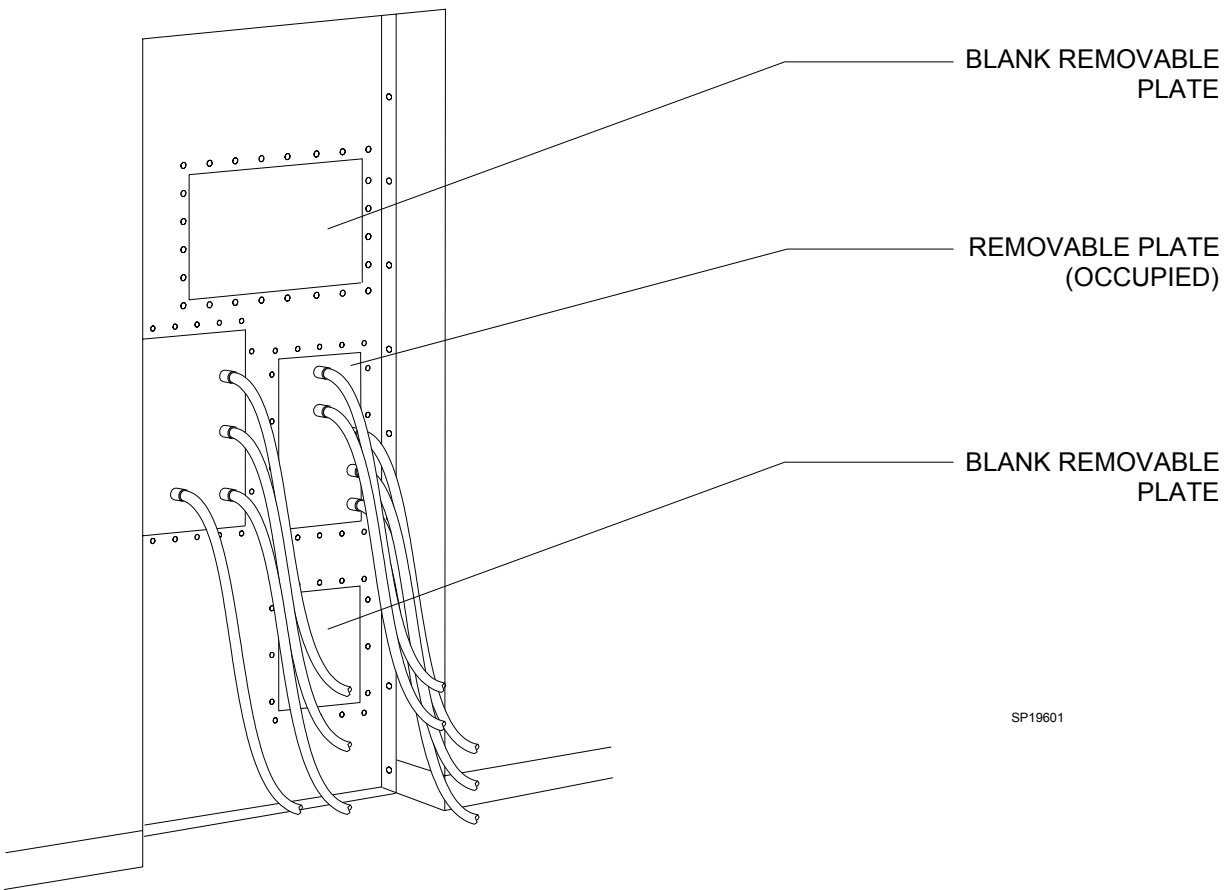
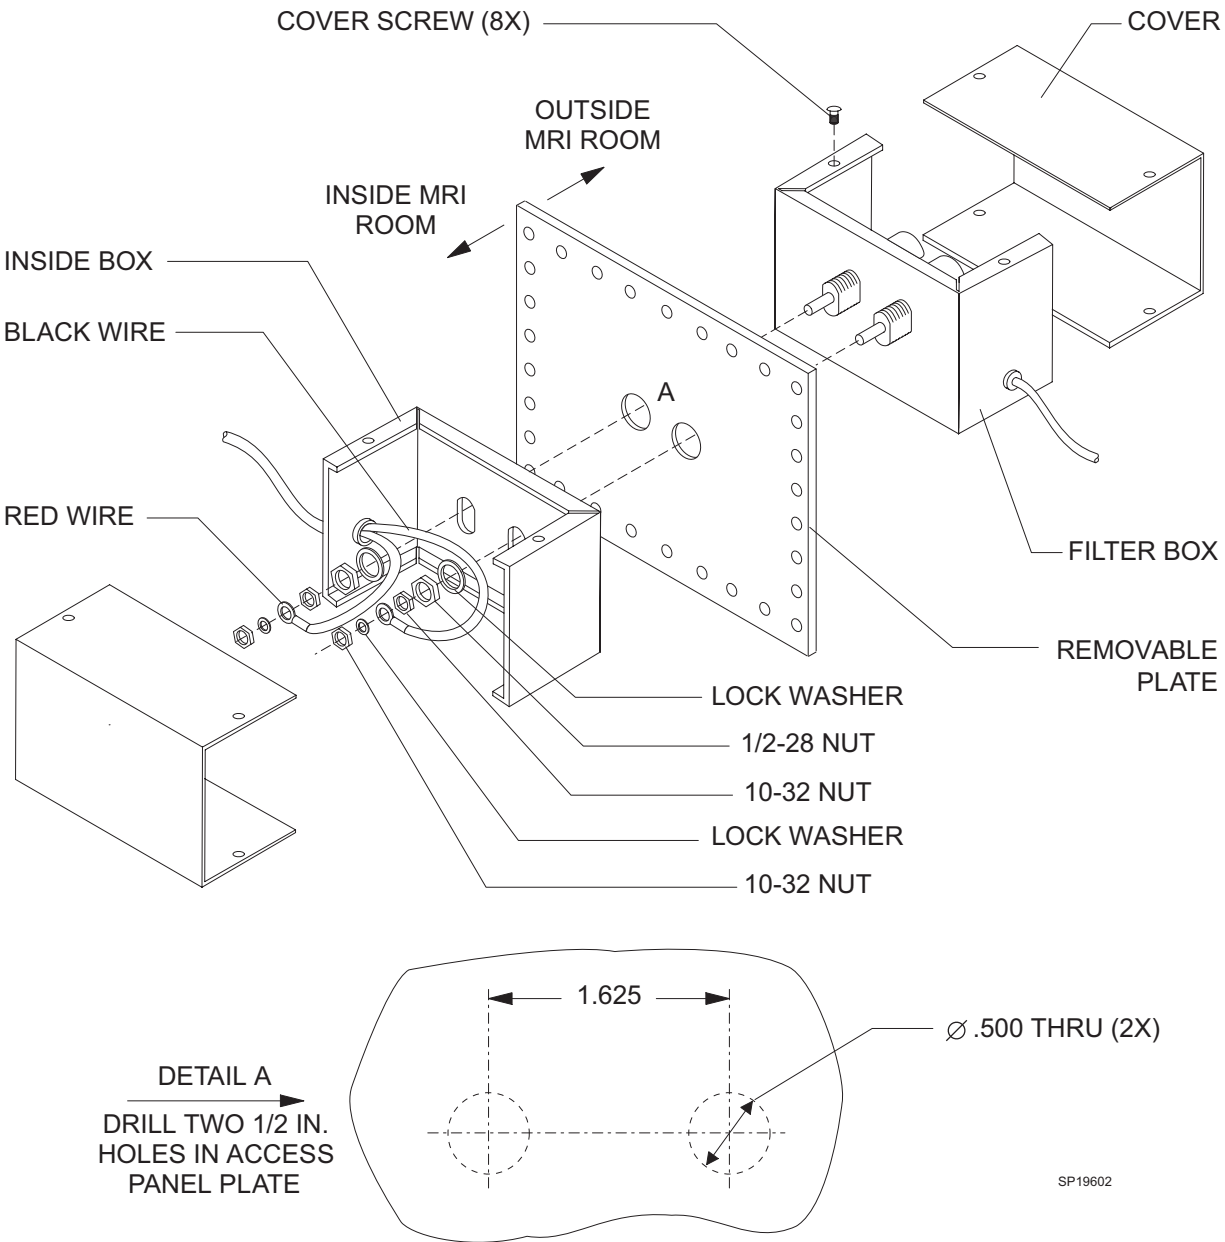

FIGURE 1. MRI Room Access Panel
FIGURE 2. Filter Box Assembly Details
The power supply filter is furnished as a double box assembly that must be re-assembled in a through-the-wall arrangement, in the MRI room access panel as shown in Figure 1 and Figure 2.
3. Remove the selected plate from the access panel and find a suitable place for drilling. Carefully mark and drill two ½ inch holes in the removed plate according to the dimensions given in Detail A in Figure 2. Remove any burrs from both sides of the plate.